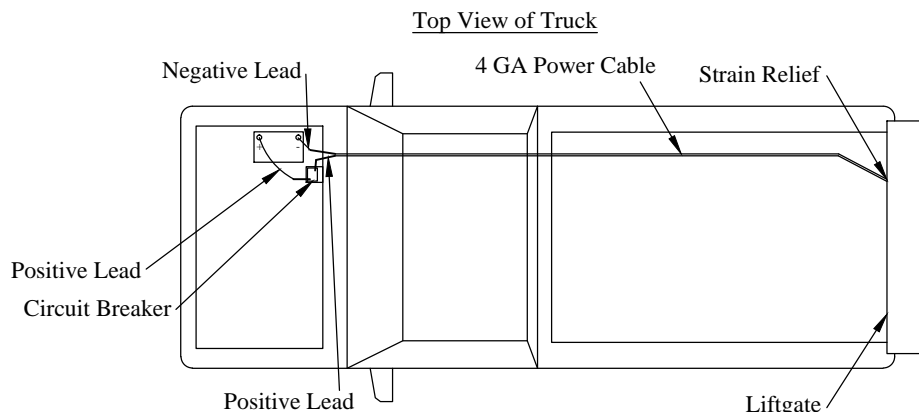

Figure 13: Electrical routing.
2. **Loosen** the strain relief on the back of the liftgate mainframe (Figure 13).
3. **Pull** the power cable (coiled up in the liftgate mainframe) carefully through the strain relief. Leave approximately two (2) inches of slack inside the liftgate mainframe (Figure 13).
5. **Route** the power cables along the frame (Figure 13) to the battery following the *Tommy Gate Recommended Electrical Wiring Guidelines*.